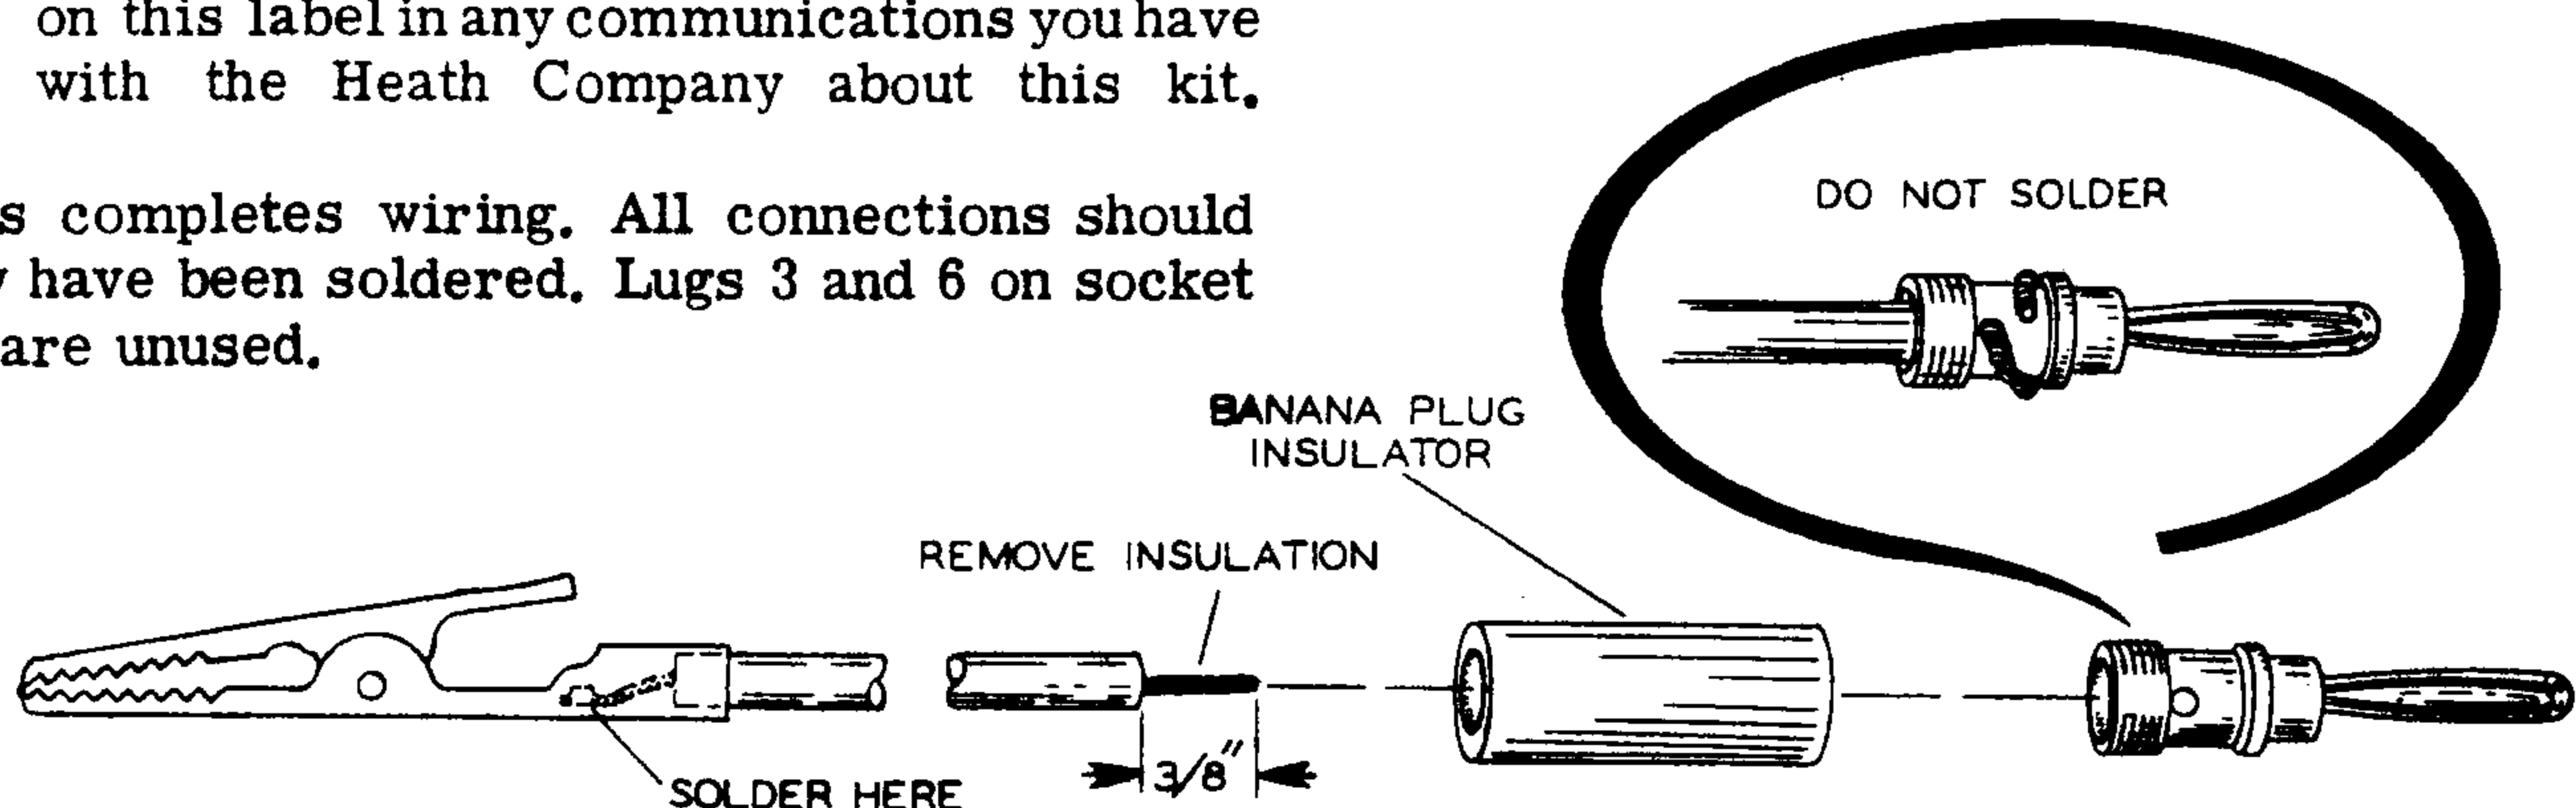

Figure 1
- () Strip both ends of the lengths of black and red test lead. Prepare each of the test leads as shown in Figure 1.